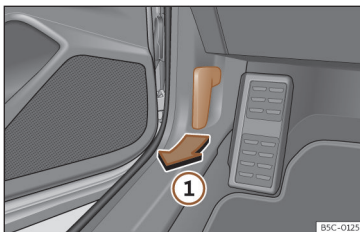

Fig. 215 Release lever in the driver's footwell area.
- Open the door and pull the lever under the dashboard»» Fig. 215 ①.